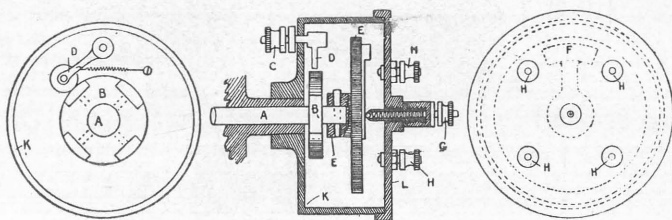

Fig. 10.—Diagram of high-tension distributor, combined with low-tension commutator.
The high-tension distributor is a very simple affair, and the whole arrangement can be seen in Fig. 10. Here is the camshaft (A) carrying the fibre disc (B) and four metal segments. The spring now takes the form of a metal roller (D), and the terminal (C) is connected to the M terminal of the coil. The whole is protected by the fibre or vulcanite case (K), mounted as shown on the camshaft bearing boss. On the extreme end of the camshaft is a fibre disc (E)